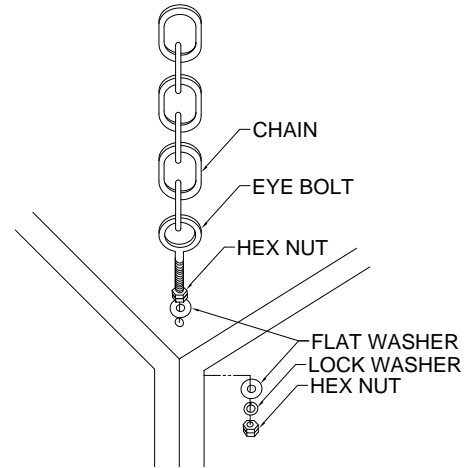

FIG. 1
1. The SF4000 cabinet contains eight securing holes located on top and bottom corners to be used with eyebolts or threaded rods for suspended installation. The recommended style of attachment is shown in **FIG. 1**, and described in Steps 3 through 5.
4. Firmly secure four chains of equal length to a firm structural support. Wire of equal or greater strength may be used in lieu of chains (**FIG. 1**).